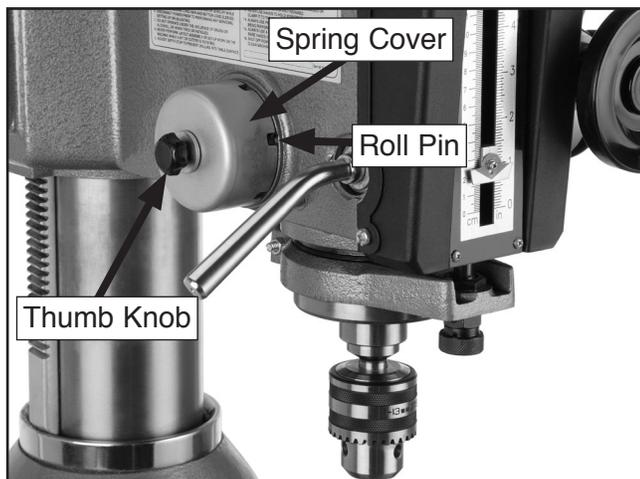

Figure 39. Spring cover.
1. Loosen black thumb knob two or three turns (Figure 39).